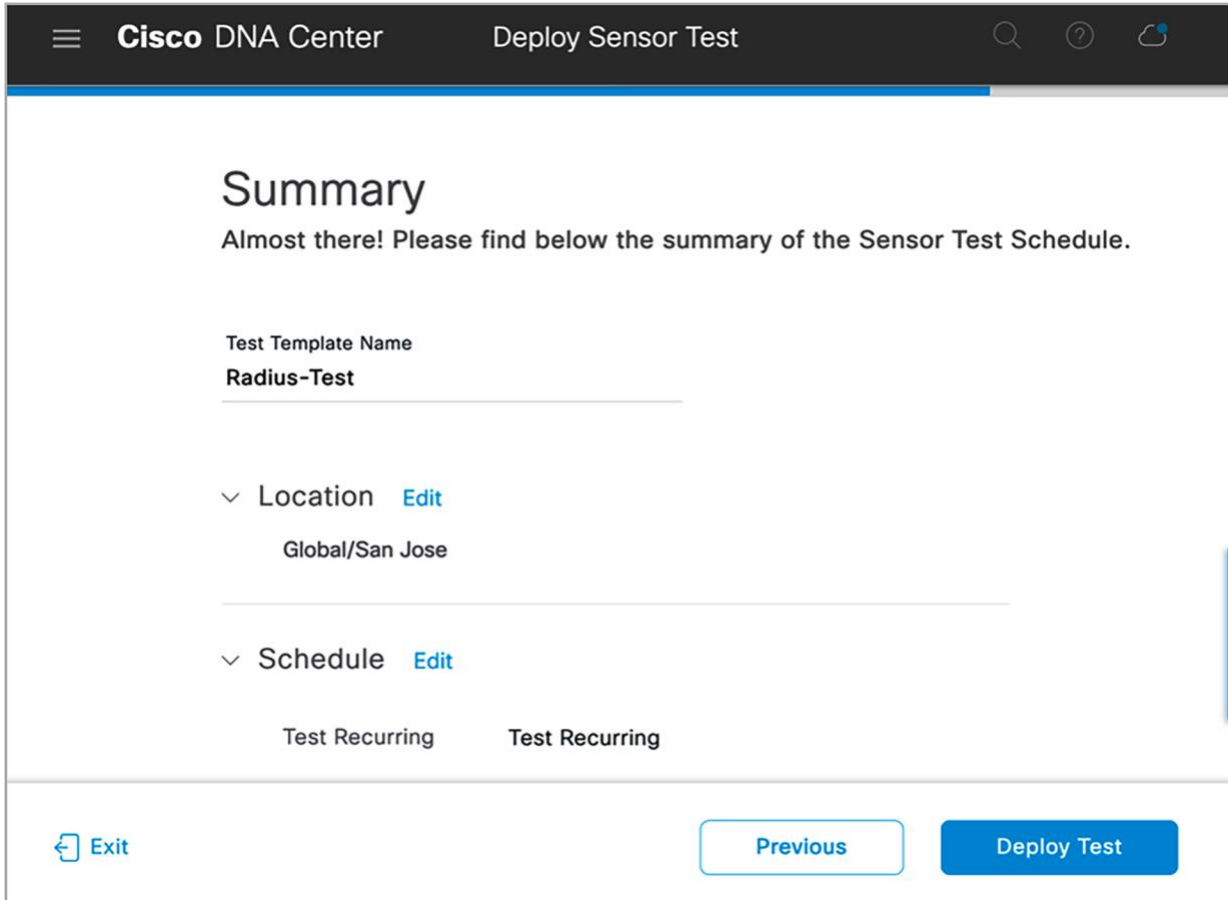

Figure 80.
- z. On the Summary page, ensure that you've selected the correct Test Template Name, Location, and Schedule. Once confirmed, click the Deploy Test button (**Figure 80.**).